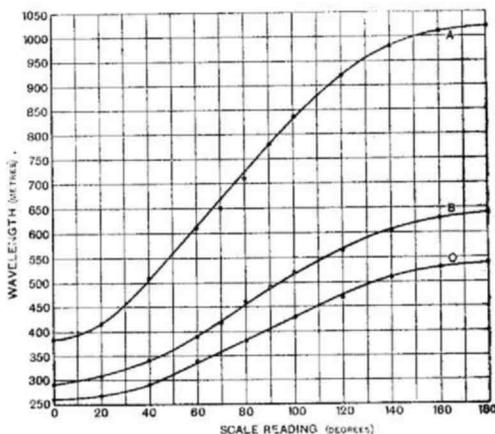

Fig. 1. Tuning curves of the Acme Variometer.
The curves of Fig. 1 show the range of wavelengths over which a normal (100 ft.) aerial may be tuned when (A), a fixed condenser of 0.0004 microfarads is connected across the variometer; (B) when used alone; and (C), when a 0.0004 μ F condenser is connected in series. It may be seen from the curves that an inductance range of 6 to 1 is obtained.